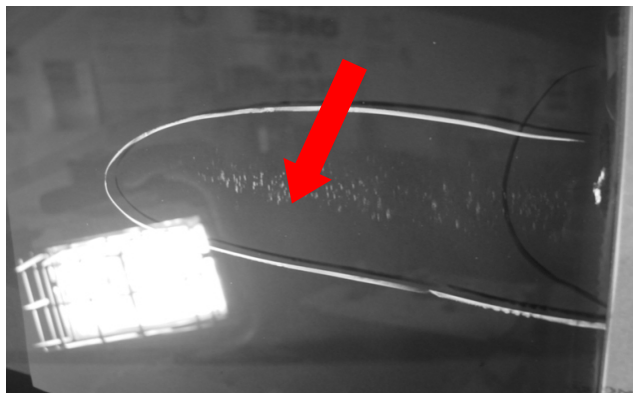

FIGURE 2-1: DEFECTS IN THE GLAZING
- a. Refer to **Figure 2-1**. The shipping and handling packaging should maintain proper window spacing to prevent the windows from rasp/scratch by rubbing against eachother. The spacer blocks must be in good condition and of proper thickness to ensure a gap remains between each piece of glazing, even with heavy loads.